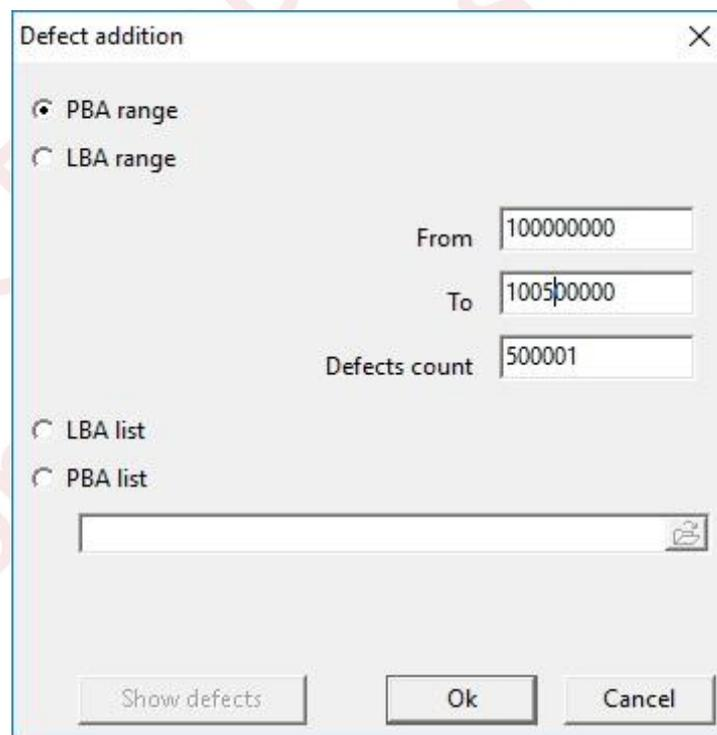

Fig. 4.23.
- ◆ **Add (Ins).** Here you can add a range of sectors in PBA or LBA format and an earlier saved list of LBA or PBA defects in G-List(*.lba) or P-List(*.chs) format respectively (Fig. 4.23). When a list is selected, the “Show defects” button becomes accessible. Clicking it opens the defects editor window where you can review or edit the list.